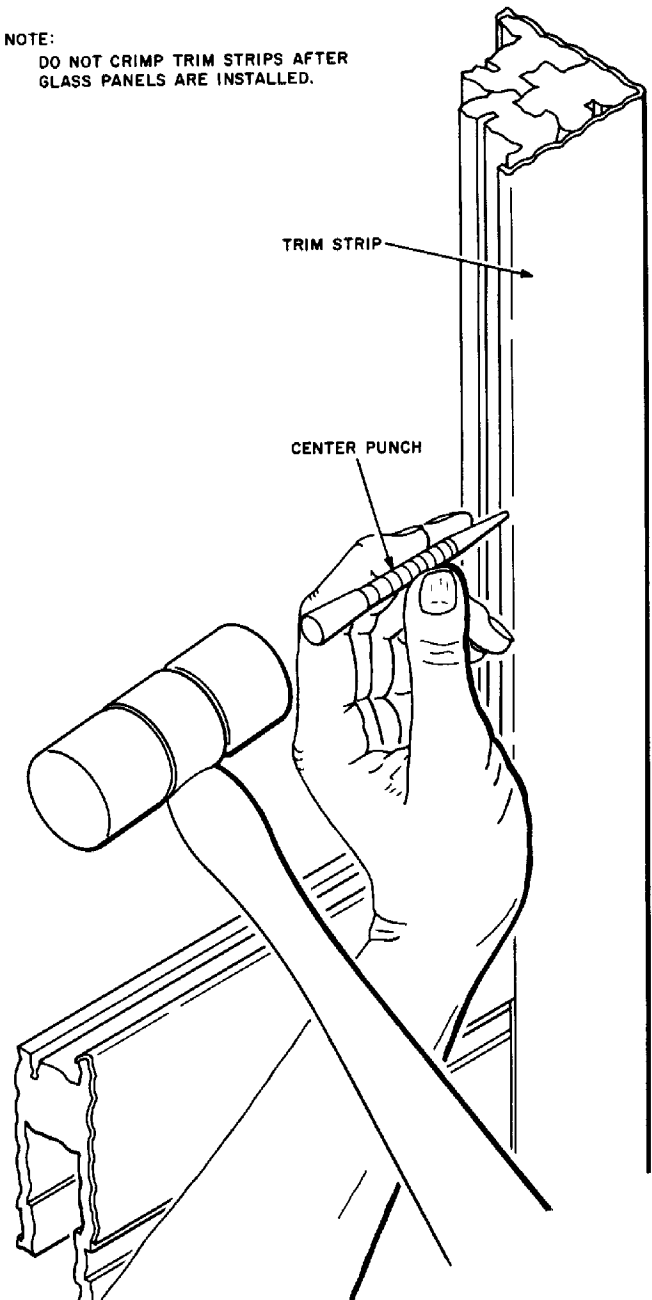

Fig. 14 — Method of Crimping Trim Strips
- (w) Crimp the edges of the trim strips except T8 and T11 approximately every six inches using RS-14770 soft faced hammer and a center punch (Fig. 14).
(i) Crimp the edges of trim strips T6 and T13 every six inches using RS-14770 soft faced hammer and a center punch (Fig. 14). T8 will be secured by the outside kickplate.